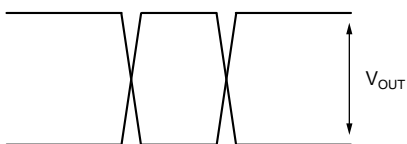

**Figure 1a. Timing Diagram
- See "Timing Diagrams," Figure 1a.